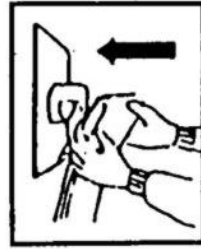

Fig. 7
- Take a new dust bag and while holding the cardboard tab push the bag over the opening of the dirt discharge tube until it is seated against the rear of the enclosure. (Fig. 7)